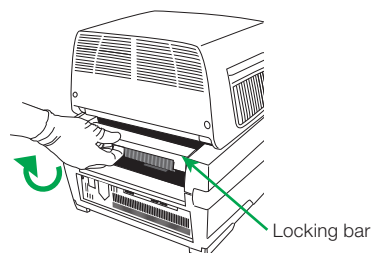
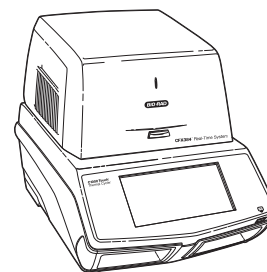

Fig. 2. Locking the CFX96 module into place.
Fig. 3. The CFX96 module positioned on the C1000 Touch chassis.
4. Reach around the thermal cycler and pull up the locking bar (Figure 2) until it is flush with the sides of the module bay. This action moves the reaction module forward, locking it into place (Figure 3).